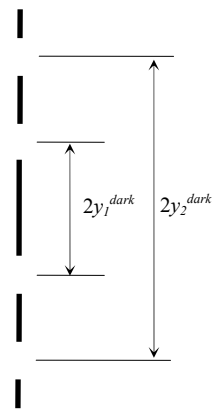

Fig. 14b Interference pattern
4. Observe the diffraction pattern on the screen for the smallest slit. You should observe something like shown in Fig. 14b. The black “bars” represent the bright bands while the gaps represent the dark bands.